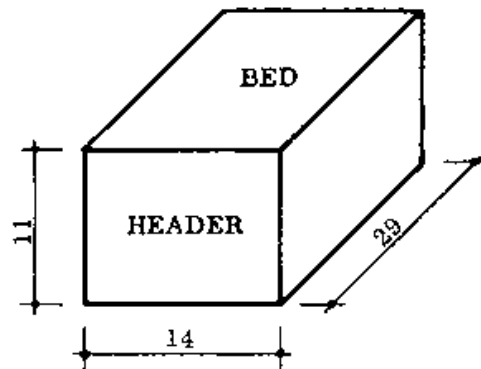

Fig. 1 SUN-DRIED TRAINING BLOCK
- SUN-DRIED TRAINING BLOCKS: These blocks, as the name implies, are dried in the sun, because they do not contain cement (Fig. 1). They are often used by beginners during their first terms of in-centre training, as they are easy to make and to handle.